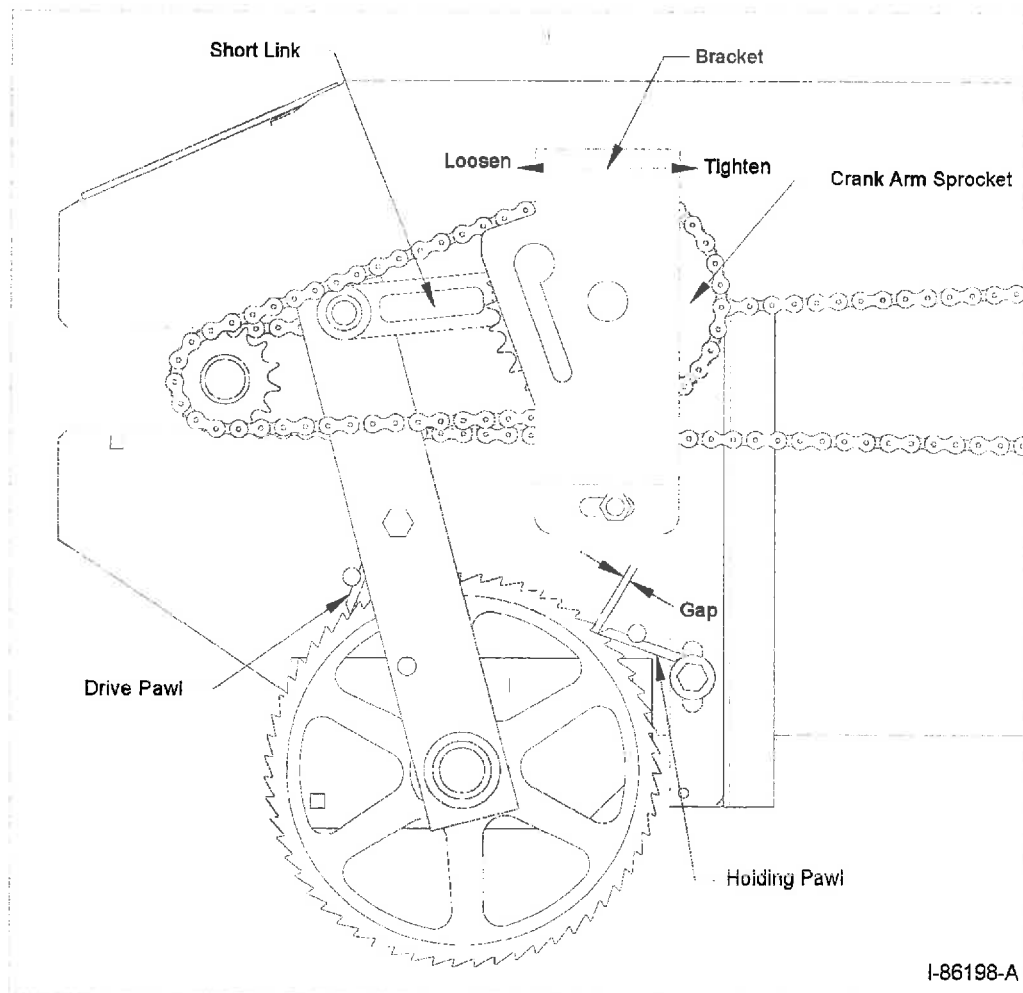

Figure 4B - Adjusting the Holding Pawl and Ratchet Drive Chain
- Apply chain lube once a month (or as needed) to the drive chains (shown in Figure 4B); use vegetable oil or a common spray lube for chains.
To Reset the Holding Pawl (refer to Figure 4B):
- (c) Adjust the holding pawl to obtain a $1/8"$ gap between the end of the pawl and bottom of the notch as shown in Figure 4B. Tighten the nut to secure the holding pawl.
Refer to Figure 4B on the previous page for an illustration of the ratchet drive chain and related components. The chain should be snug, but not too tight. If the chain is too tight, it may cause excessive wear on the bushings in the crank arm sprocket (resulting in premature failure).
- **To adjust the ratchet drive chain (refer to Figure 4B):** adjust the **bracket position** by loosening the two (2) 1/2" bracket bolts and sliding the bracket forward or backward (to tighten or loosen) as shown. Following adjustment of the bracket position, verify that the drive chain is set to the proper tension as specified above.